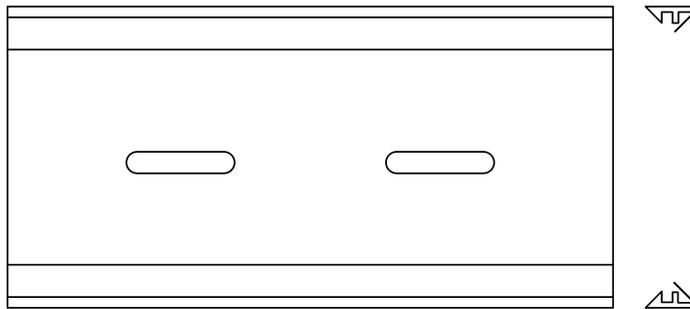

Figure 1: Mounting Track for the RTU
Step 1: Secure mounting track (Figure 1) to selected location using sheet-metal screws.